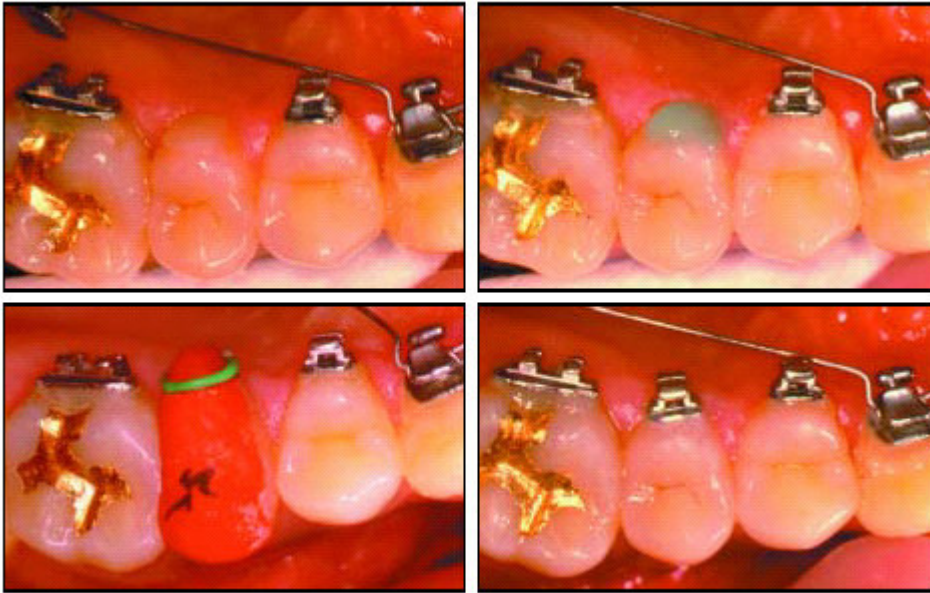

Fig. 3 CRCS rebonding procedure.
4. After the adhesive has set, remove the elastomeric ligatures and resin cores (Fig. 2B). Store the removed resin cores in case they are needed for rebonding (Fig. 3).